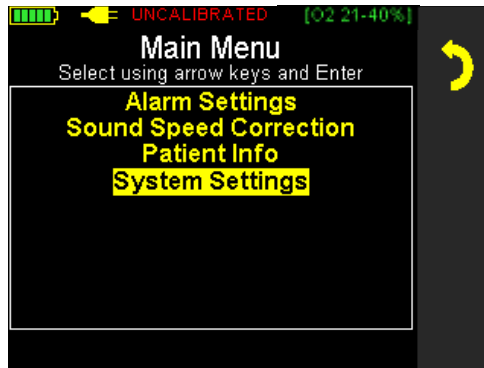

Figure F-2
- b. From the **Main Menu** select **System Settings** as shown in Figure F-2 to advance to the **Password Screen**. Note that the options displayed in the **Main Menu** may differ from those shown depending on the selected settings and whether a Sensor is present or not.